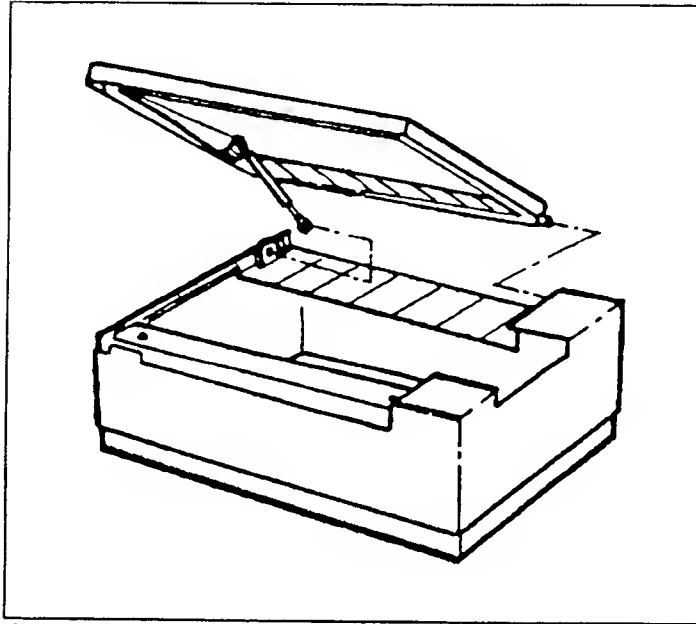

Figure 5-6. Removing the Access Door from the Top Cover
If the printer's top cover is not already off, you only need to remove the top access door only. If the top cover has already been removed, skip step "a", and proceed directly to step "b". See Figure 5-6.
- a. Remove the printer access door from the top cover as shown in Figure 5-6 (see NOTE above).